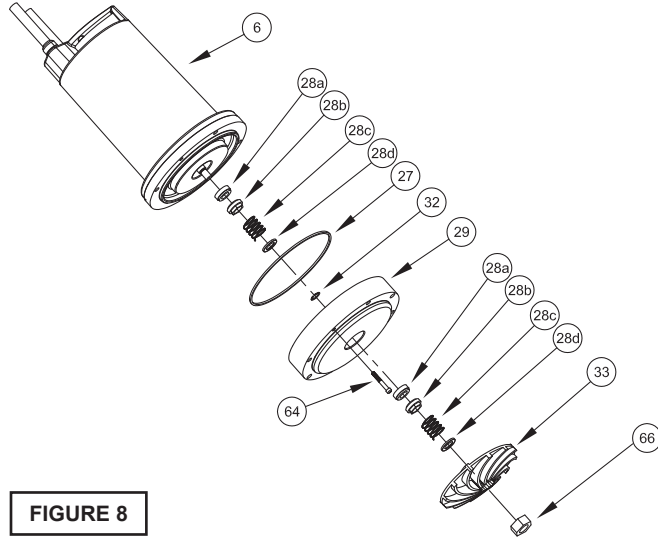
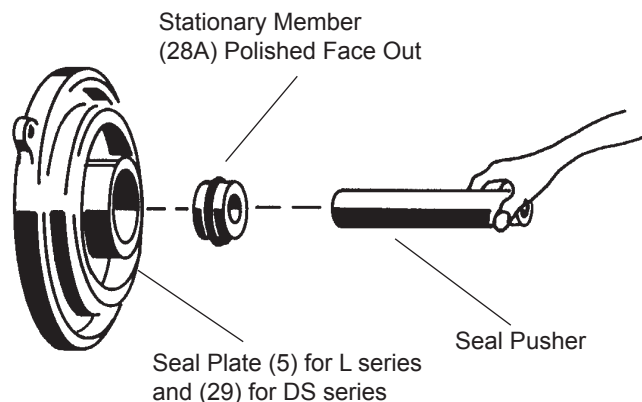

FIGURE 8
FIGURE 9
Inner Seal (DS Units Only)- Clean and oil seal cavities in seal plates (5, 29). Lightly oil (**DO NOT** use grease) outer surface of stationary member (28a). Press stationary member (28a) firmly into inner seal plate (5), using a seal pusher (see parts list - seal tool kit). Nothing but the seal pusher is to come in contact with seal face (see Figure 8).
Make sure the stationary member is in straight. Slide a bullet (see parts list - seal tool kit) over motor shaft. Lightly oil (**DO NOT** use grease) shaft, bullet and inner surface of bellows on rotating member (28b), see Figure 9. With lapped surface of rotating member (28b) facing inward toward stationary member, slide rotating member over bullet and onto shaft, using seal pusher, until lapped faces of (28a) and (28b) are together (see Figure 8).